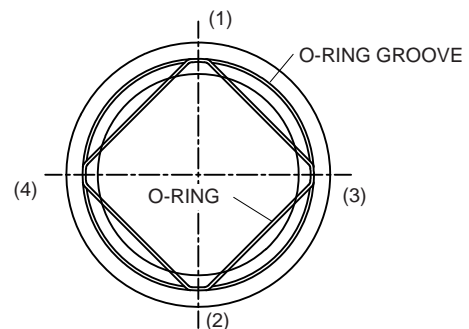

FIGURE 1
a. Push the O-ring into the groove in (4) sequential steps as shown in Figure 1.